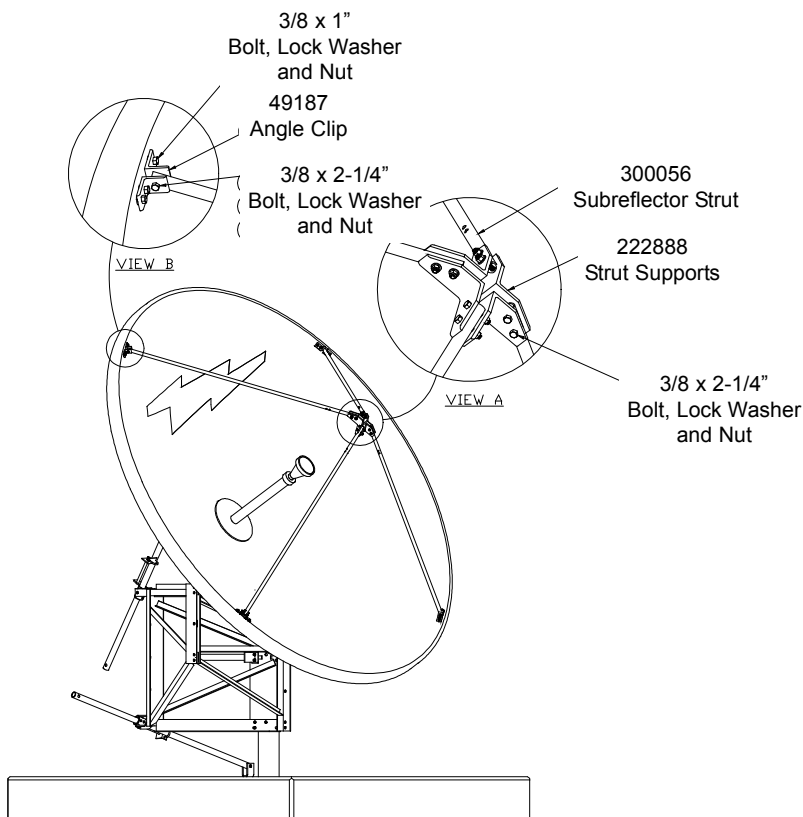

Figure 3-54a: Subreflector Strut Attachment
Loosely preassemble the 300056 Subreflector Struts using supplied 222888 strut supports and 3/8" x 2-1/4" bolts, lock washers, and nuts as shown in Figure 3-54a, View A.
Step 3 Attach the 49187 angle clips around the reflector perimeter at the indicated positions using 3/8" x 1" bolts, lock washers and nuts. See View B in Figure 3-54a.